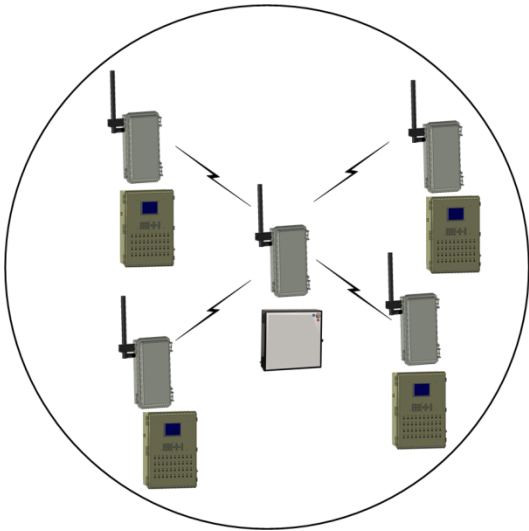

Figure 21: Placing RLINK ONEs Using an Omni-Directional Antenna
- When the supplied antenna is used, you can place the RLINK ONEs and controllers anywhere, 360 degrees around the central RLINK ONE (Figure 21).